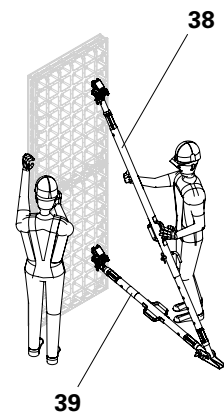

Fig. B1.04
2. Install push-pull props (38 + 39) according to permissible width of influence. (Fig. B1.04)